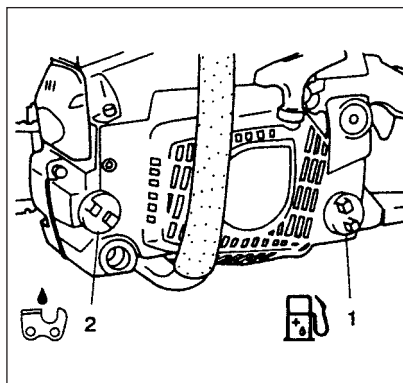

Fig. 2-1B
⚠ WARNING! (Fig. 2-1B)
Chain oil (Fig. 2-1B)
When pouring fuel (1) or chain oil (2) into the tank, place the unit with cap side up. (Fig. 2-1B)